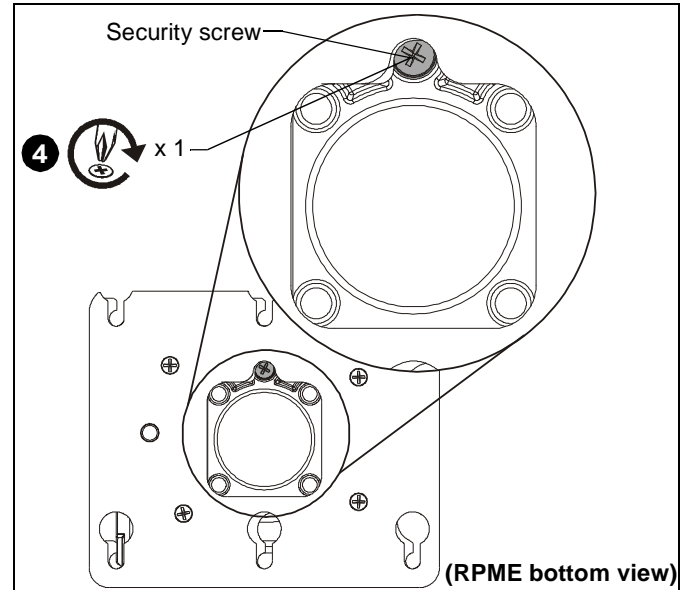

Figure 2
4. Tighten security screw (access from bottom of RPME) (See Figure 2) using a Phillips screwdriver until set screw cannot be seen through set screw access hole in RPME. (See Figure 2)